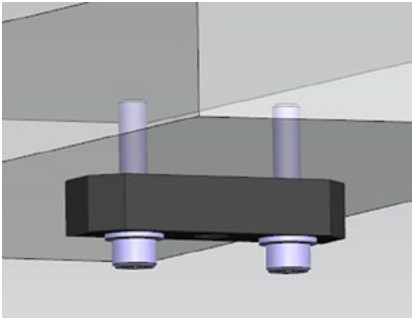

Figure 1: Attach upper mounting block to the substructure.
1. Attach the upper mounting blocks to the substructure using M12 bolts and matching nuts for the substructure, see Figure 1. The intended positions are indicated on installation drawings. Using the tape measure and marker pen, indicate the positions of the mounting blocks on the substructure according to the installation drawings.